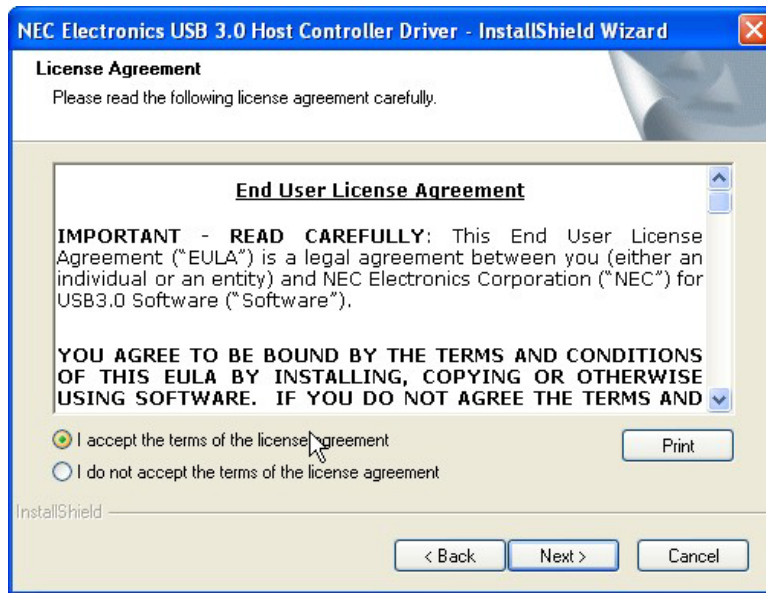

Figure 6-29: USB 3.0 Driver License Agreement
- Step 6: The **License Agreement** shown in **Figure 6-29** appears.